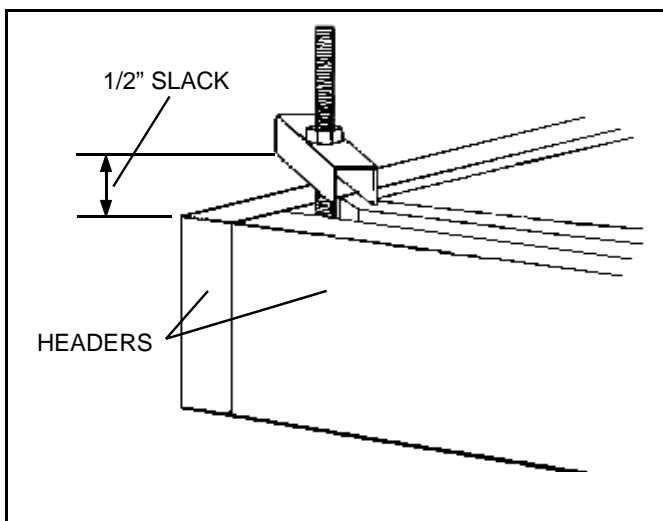

Figure 5
- Starting at one end, slide a joist hanger at a 45 degree angle onto threaded rods and thread nut down until there is only about 1/2" slack. ***Do not tighten fully.*** Figure 5.